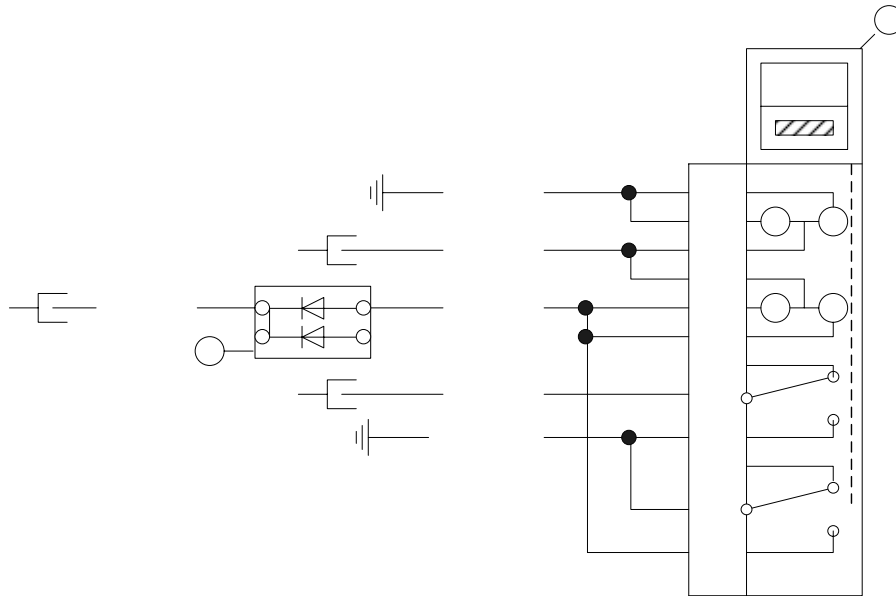

Figure 3 TAWS INHIBIT Switch Wiring
6. Wire the switch using the Aerospace Optics Connector Kit (Item 3) and existing aircraft wires as shown in Figure 3.
13. Using the Aerospace Optics Connector Kit (Item 3) and existing aircraft wires; add new wires and a Diode Module (Item 4) to complete the installation as shown in Figure 3.